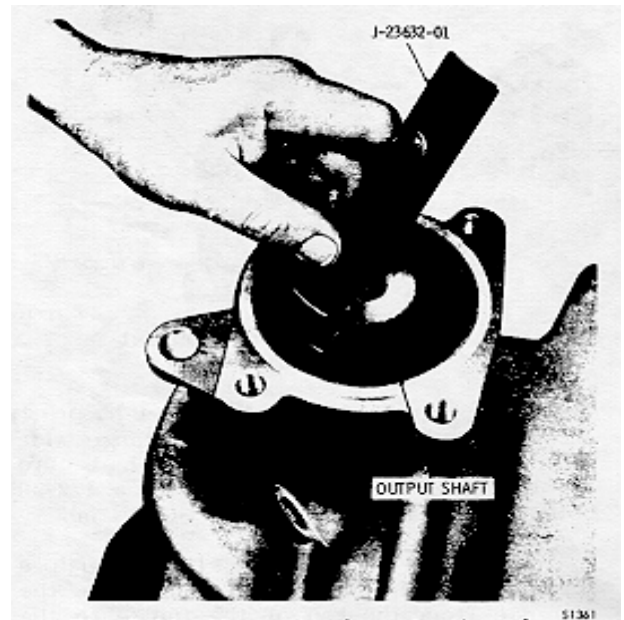
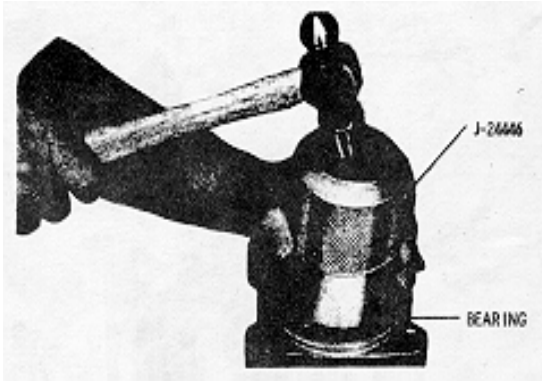

Fig. 7-16. Measuring for selection of rear bearing spacer
Fig. 7-17. Installing rear output shaft bearing
(3) Install the speedometer drive gear onto the output shaft.
(4) Using a soft drift, tap against the speedometer drive gear to seat all the installed components.
(5) Loosen the thumbscrew on spacer selection gage J-23632-01 and position the gage against the output shaft (Fig. 7-16). Push the straight member of the gage against the rear of the speedometer drive gear. Push the lipped member against the rear bearing front snapping. When the gage is in firm contact with these parts, and the concave side of the straight member is firmly against the output shaft, tighten the thumbscrew.
(6) Remove the gage, and using a depth micrometer, measure the distance from the end of the straight member to the lip of the curved member. Use this dimension to select the proper rear spacer, as listed in the following chart. Install the spacer.
(7) Using bearing installer tool J-24446, install rear bearing 4 (B, foldout 9) numbered side out, as shown in figure 7-17. Install the beveled snapping, flat side down.
(8) Check the end play of the transmission output shaft as follows.